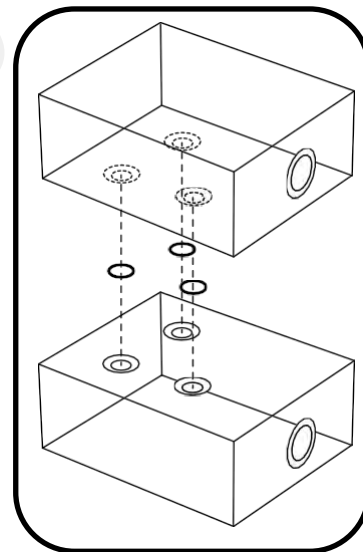

Figure 4.28
- 2) Lubricate O-ring with clean hydraulic fluid and place in open port. (Fig 4.28)